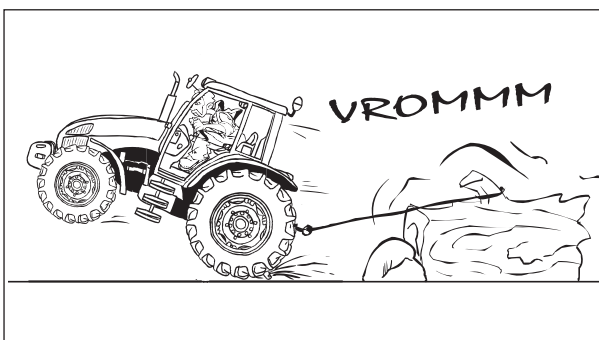

Fig.2-30
- Start slowly and increase your speed gradually. DO NOT rev the engine or drop the clutch. If the tractor is attached to a heavy load, or immovable object, improper clutching may cause overturn (Fig.2-30 and 2-31).